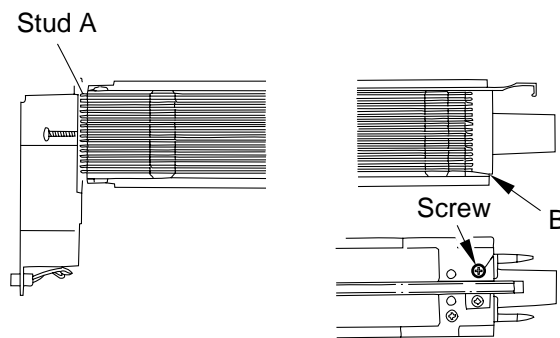

Figure 4-331
- 6) Hook the loop on the stud A shown in Figure 4-331.